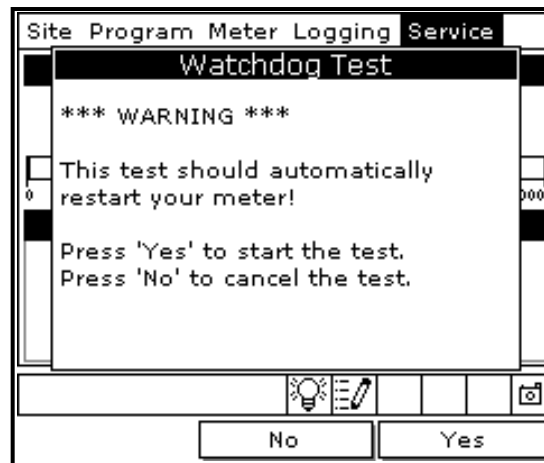

Figure 64: Watchdog Test Screen
4. Use the arrow keys to scroll to Watchdog Test and press **[ENTER]**. The screen appears similar to *Figure 64*.